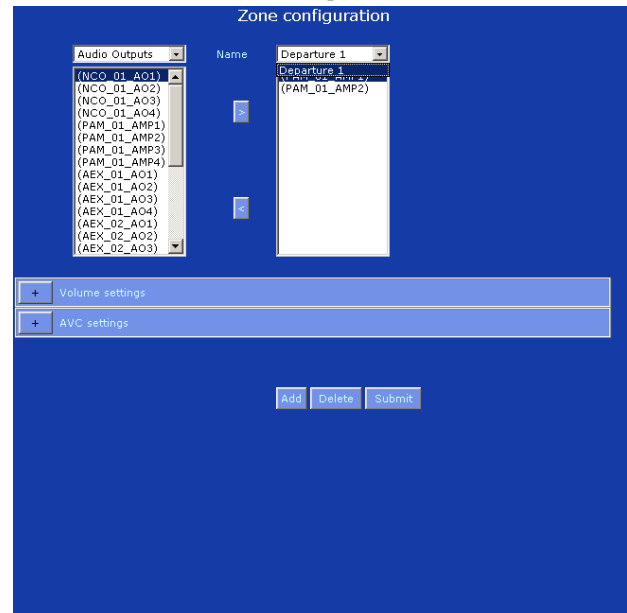

figure 36.13: Delete zone, step 4
- 4 Click the *OK* button to confirm that the zone has to be deleted. A screen similar to the one in figure 36.13 appears. The deleted zone is no longer available in the *Name* dropdown list.